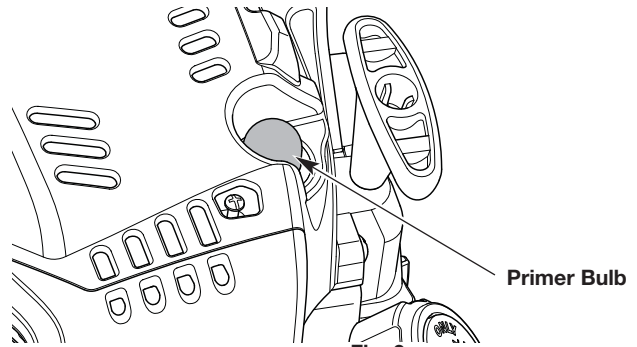

Fig. 9
3. Slowly press and release the primer bulb **10 times** (Fig. 9). If fuel cannot be seen in the primer bulb, press and release the primer bulb until fuel is visible.